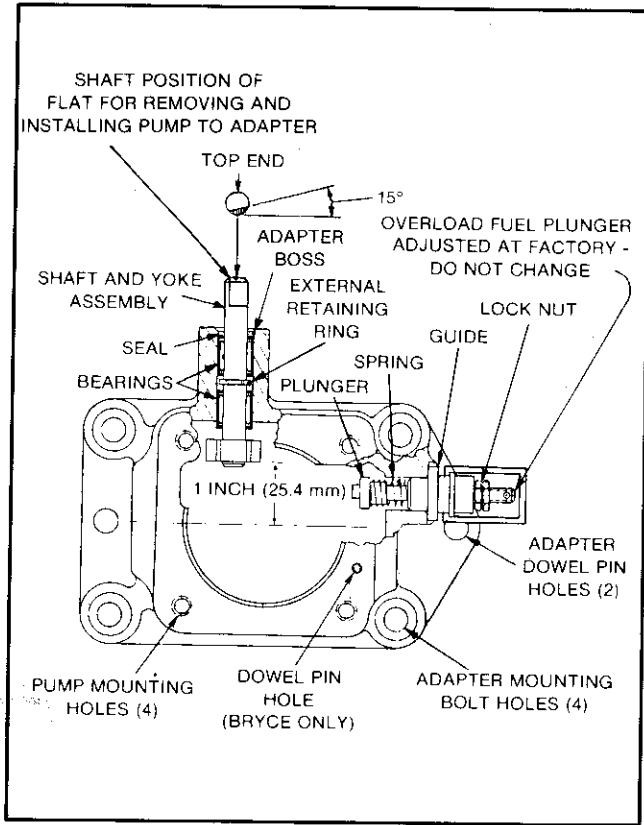

FIGURE 3-47. INJECTION PUMP ADAPTER ASSEMBLY
6. Position fuel control shaft and yoke as shown in Figure 3-47. Then, lift pump off of adapter assembly.